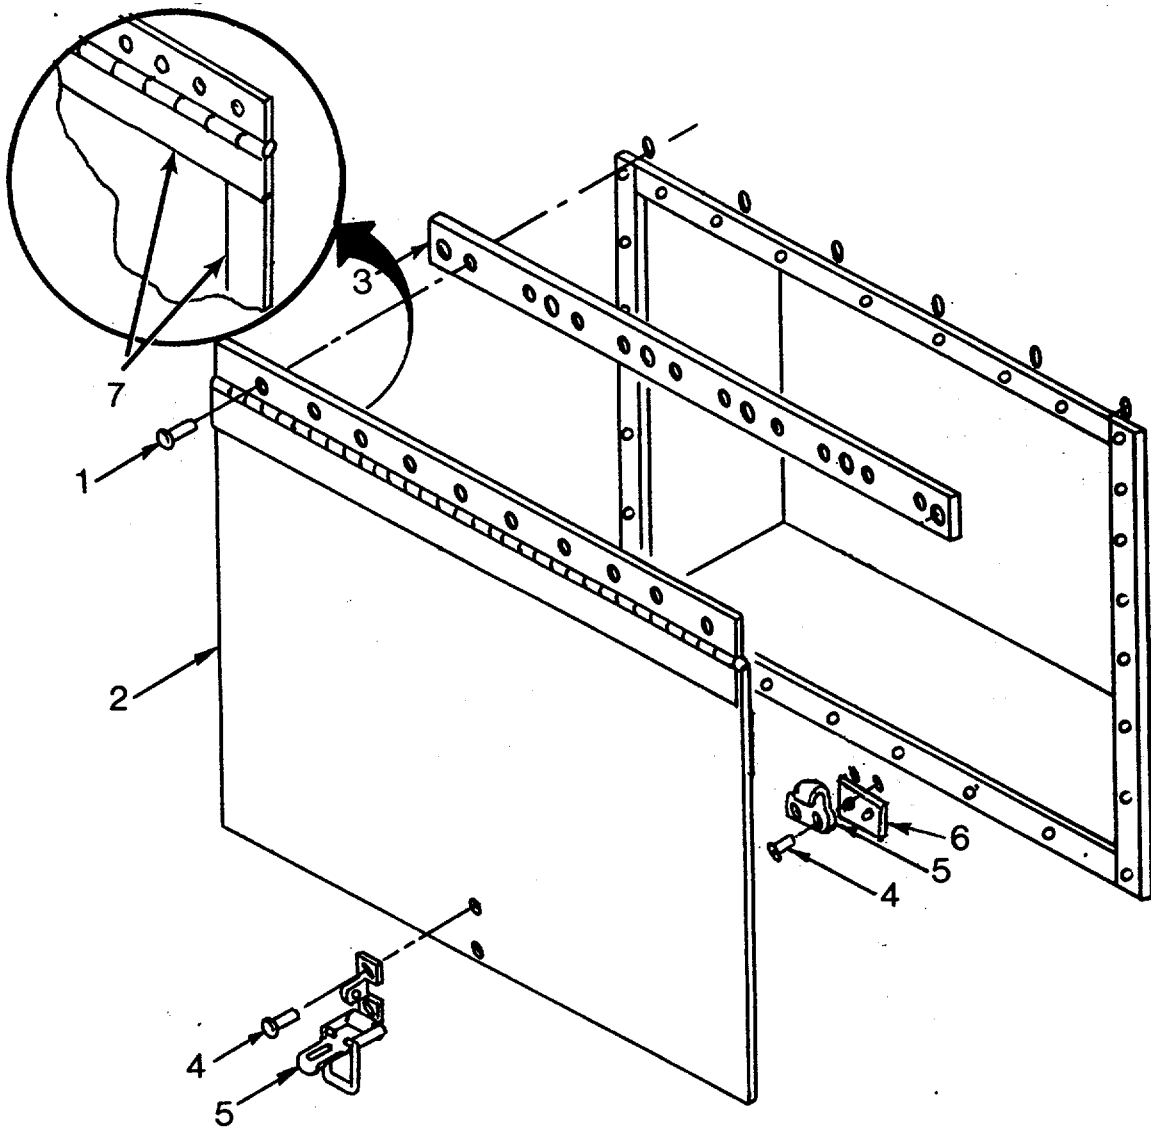

Figure 4-47. Drop-Off Box Assembly (Exterior)
- (1) Exterior Door. (See Figure 4-47.)
- (a) Remove rivets (1) by drilling or chiseling off heads.
- (b) Remove RTV sealant from exterior door (2) and wall.
- (c) Remove exterior door (2) and spacer block (3).
- (d) Remove rivets (4) from exterior door latch (5) by drilling or chiseling off heads.